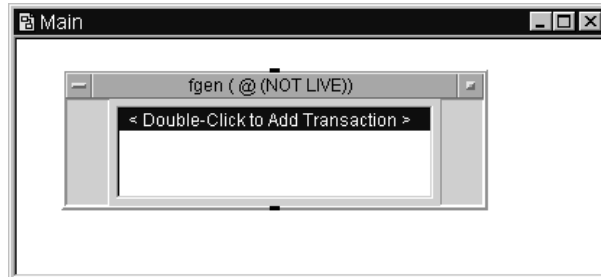

Figure 92 A Direct I/O Object
- 4 To place the object on the screen, make sure that **fgen(@NOT LIVE))** is still highlighted, and click **Create I/O Object** ⇒ **Direct I/O**. Figure 92 shows the Direct I/O object.